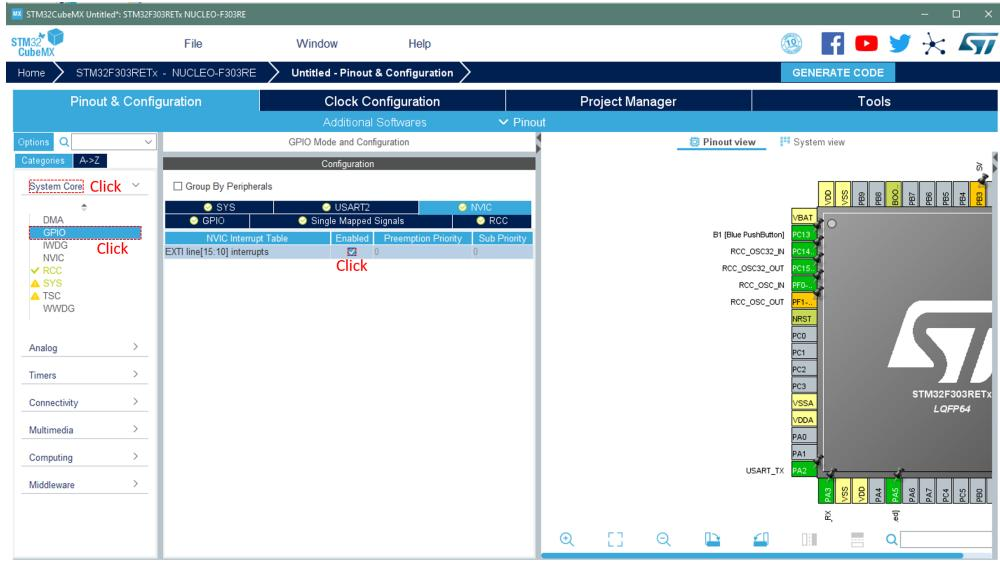

Figure 3.21: Enable the interrupts in *CubeMX* [3].
- We need to define when an interrupt occurs. In fact, we need to clarify what is the trigger for the interrupt. This is shown on the fig. 3.21;